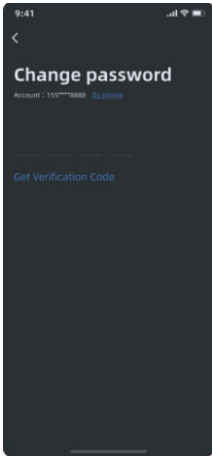

Figure 8
8) Figure 8: Already bound email/phone number, select the verification code acquisition method, enter the received verification code, and enter the password setting page.